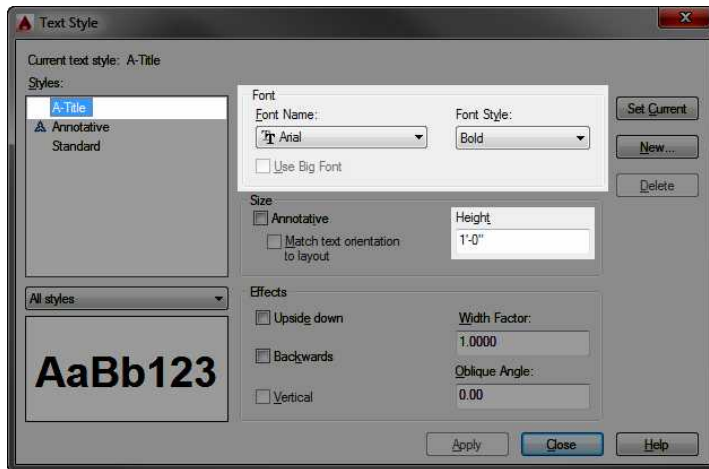

FIGURE 8.5: The Text Style dialog box after setting up the Title style
8. Press the Tab key a few times to move to the next text box. The Height setting is highlighted at the default of 0'-0" (0).
9. Enter 12 (350), and then press Tab again. A height of 1'-0" replaces the initial imperial measurement of 12".
Because the A-Title text style will be used for headings and titles, it will use a plotted height of 1/4" (7 mm). Once again, the model space height for this text was derived by multiplying the plotted height of 1/4" (7 mm) by the drawing scale factor 48 (50). Your Text Style dialog box should look like Figure 8.5.